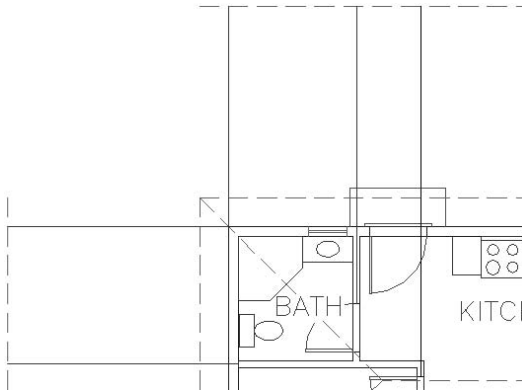

FIGURE 10.13: Drawing the grid lines
8. Draw two vertical lines and one horizontal line from the middle of the interior walls out to the offset rooflines. Use Midpoint Osnap and pick one of the jamb lines or the guideline to start each line from the middle of a wall (see Figure 10.13).